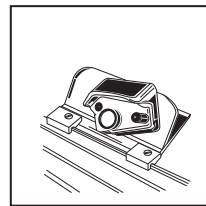

Fig. 3
5. Place the slots in the bearings over the outside lip of your ADAPT-A-RULE and tighten the screws the rest of the way. The cutter will now glide on the ADAPT-A-RULE for secure and accurate cutting (FIG. 3).